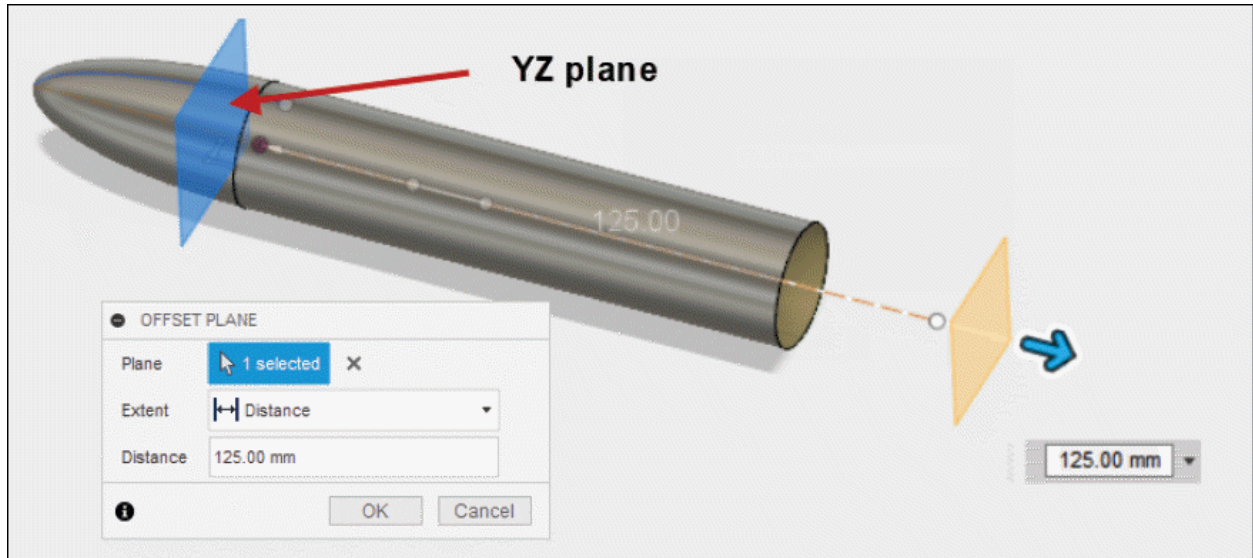

Figure-42. Creating offset plane
- Select the **YZ** plane as shown in Figure-42.